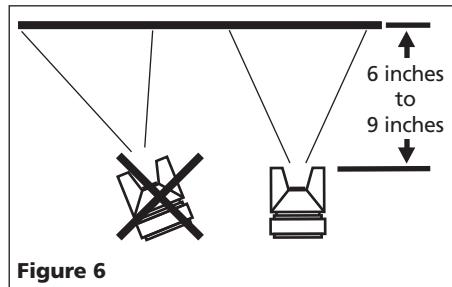

Figure 6
- Begin spraying. Always keep the gun at right angles to the work by flexing your wrist while making the paint stroke (See Figure 6).